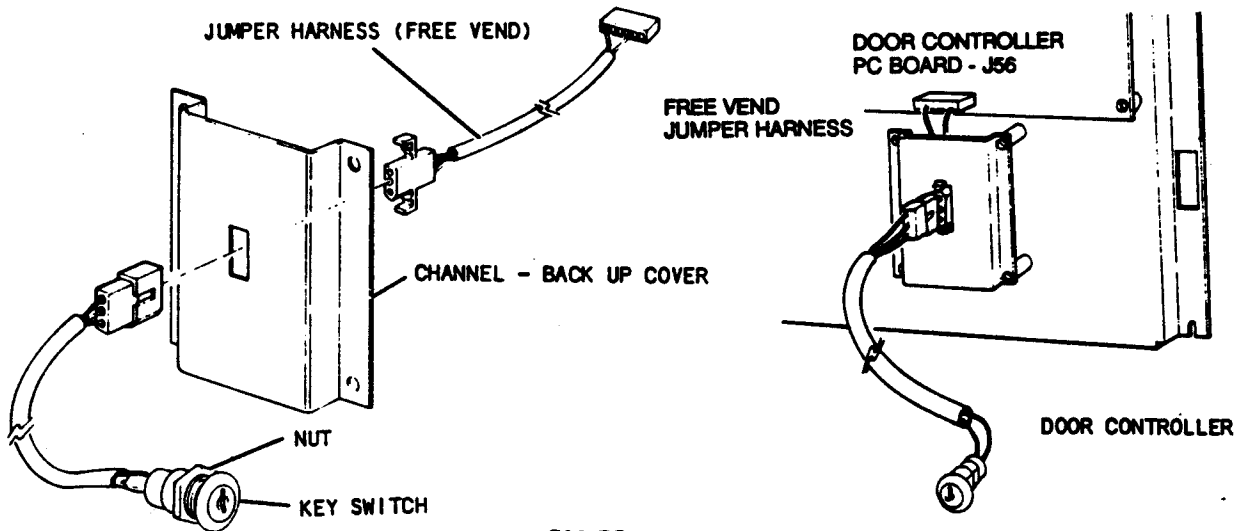

FIGURE 4
3. Snap end of harness into backup cover provided in kit, as shown in Figure 4.
4. Plug other end of harness into Door Controller PC Board as indicated in Figure 4.